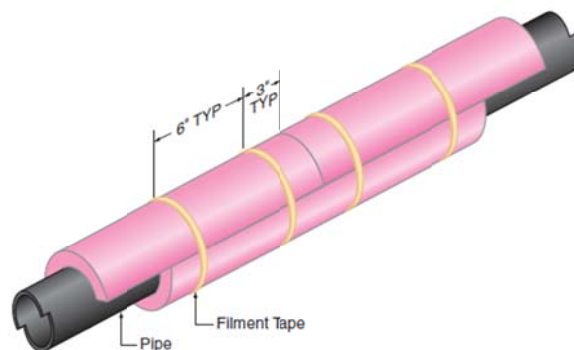

**Figure 3**
2. Seal all joints full depth with joint sealant and spread to uniform thickness so that joints appear tight and uniform. (Figure 3, Appendix A)